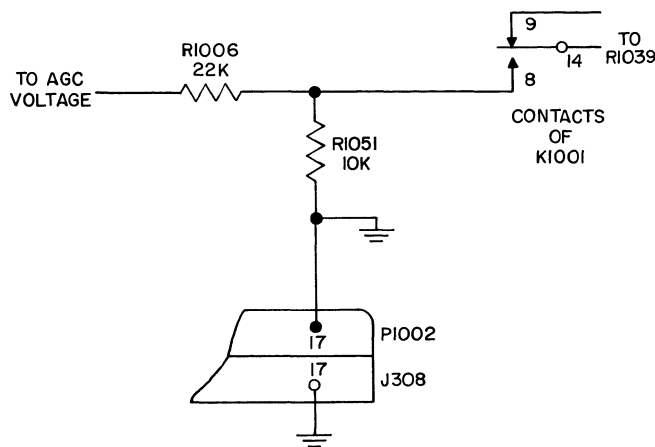

Figure 9-2. R1051-R1006 Circuit Previous to MOD 1
a. Resistor R1051 was 10K ohms, and R1006 was 22K ohms previous to MOD 1. Figure 9-2 shows R1051 and R1006 previous to MOD 1. Resistor R1051 was deleted, and the value of R1006 was changed to a selected value (10K, 12K, 15K, 18K, 22K, 27K, or